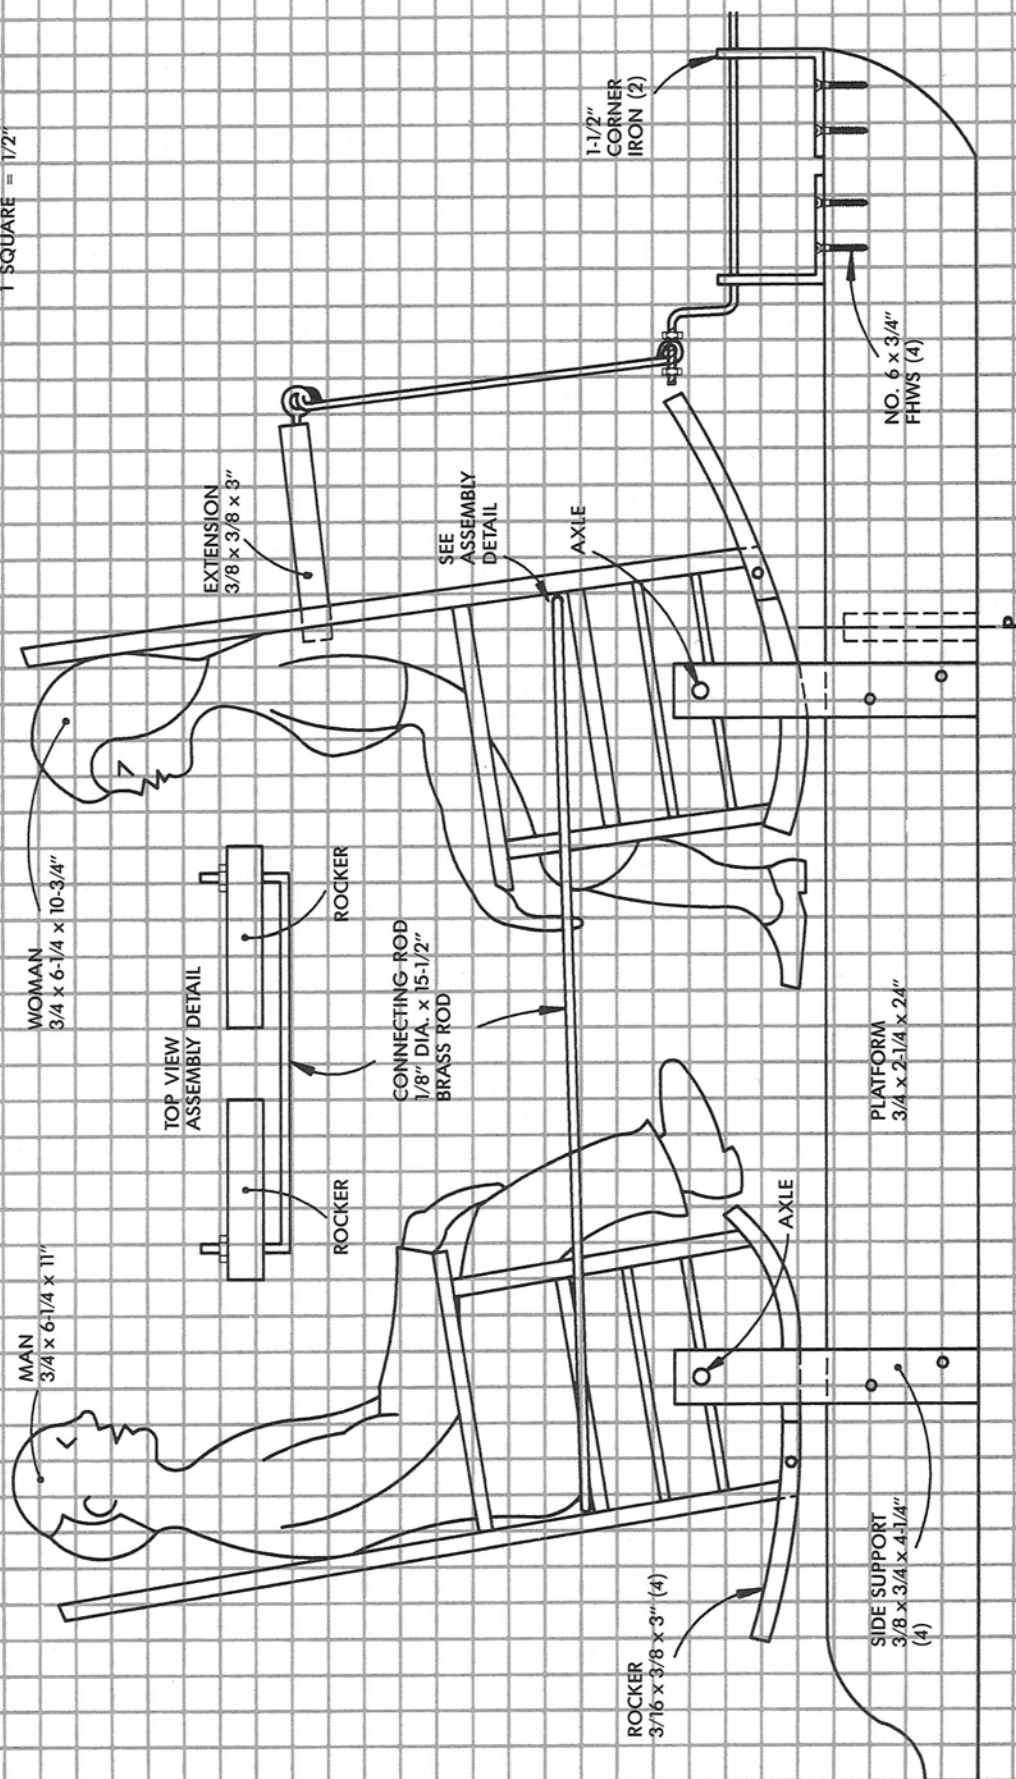

Figure 4-29. Plan for Ol' Rockin' Chair whirlingig.
1. Make the standard platform and mark off where objects will be located (Fig. 4-29). Drill the $3/8$ in. hole for the pivot socket 8 in. from the front of the platform. Attach the corner irons.